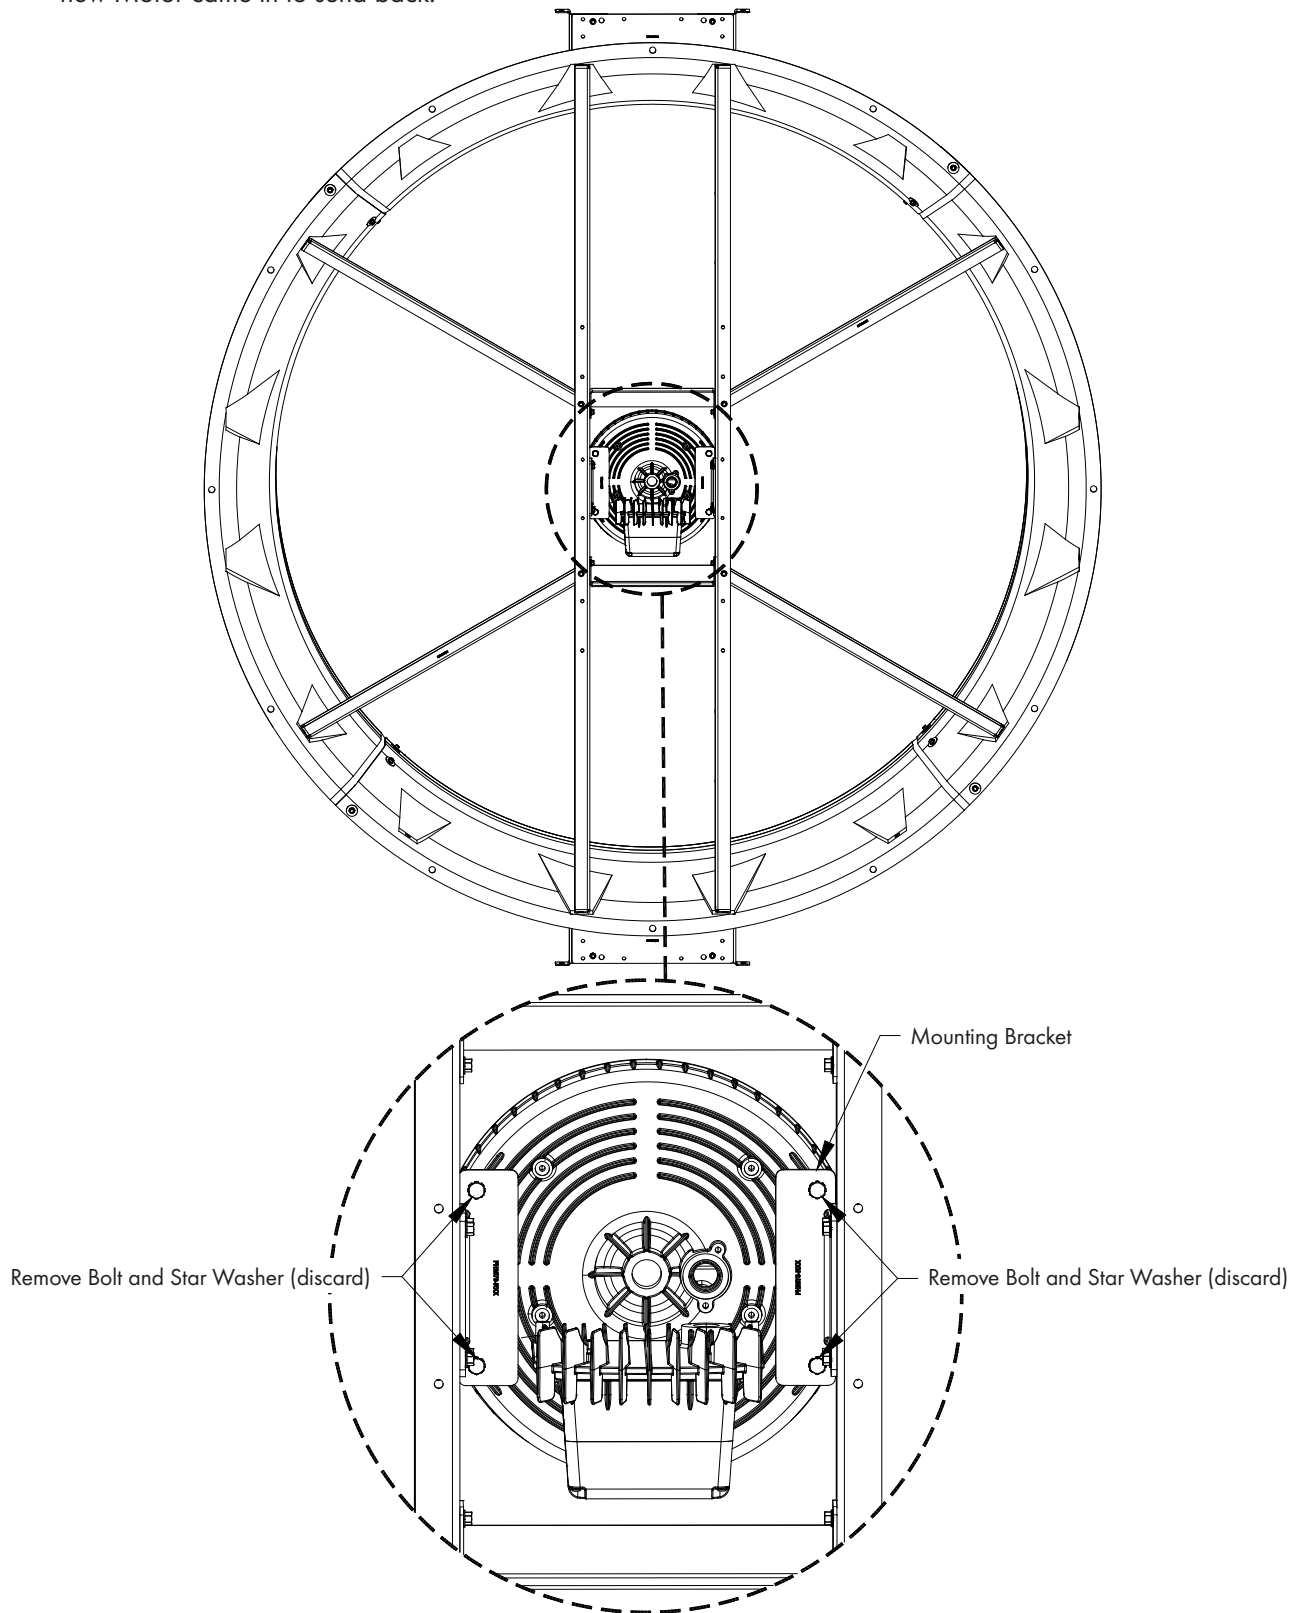

Figure 20
Remove the (4) bolts and star washers holding the Motor to the brackets. Motor is heavy, make sure to support it while removing bolts so it does not fall and damage fan housing or Motor. See Figure 20. If you were instructed by Munters office to send the old Motor back to the office, repack it in the box that the new Motor came in to send back.